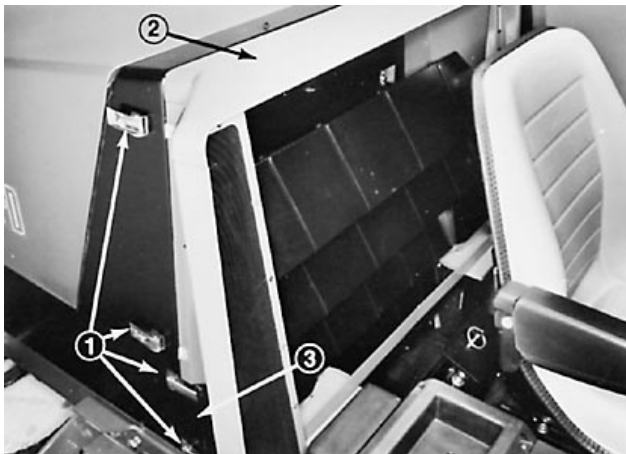

Figure 40
- B. Unlatch the latch handles on both sides and remove the radiator cowl and grille support (Fig. 40).